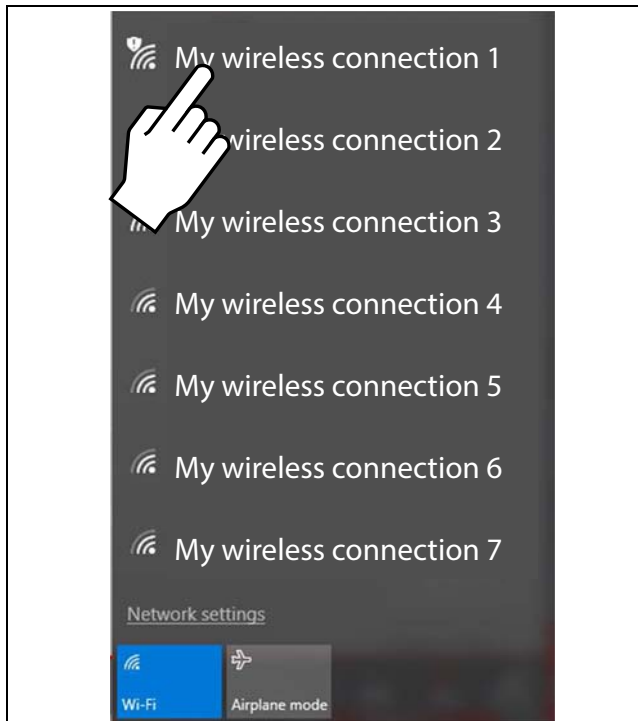

Figure 1-20
3. Choose your **Wireless Printer** from the list of available networks, then select **Connect** (Figure 1-20).